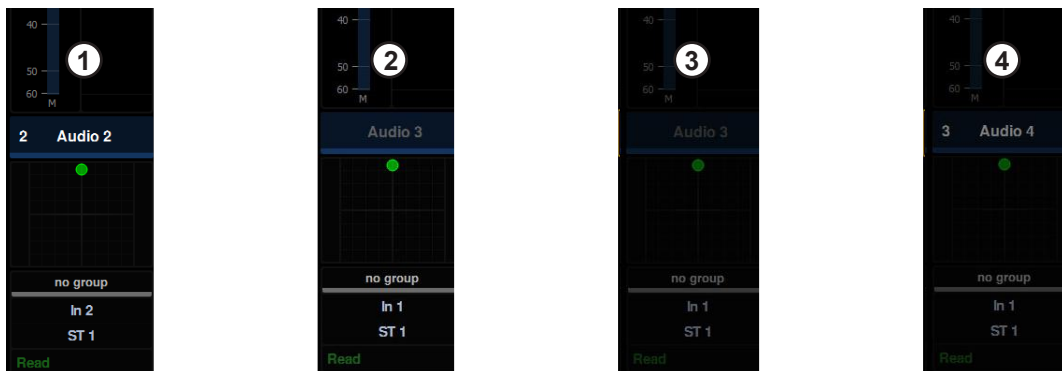

Figure 54. Hidden tracks on Display Modules
- If a track is active, shown, and unmuted, it appears fully lit (“1” in Figure 54).
- If the track is hidden but unmuted, track name (only) is dimmed, and no track number is shown (“2” in Figure 54).
- If the track is hidden and muted, the entire strip is dimmed, and no track number is shown (“3” in Figure 54).
- If a track is muted, the entire strip is dimmed, track name is dimmed slightly, and track number is shown (“4” in Figure 54).